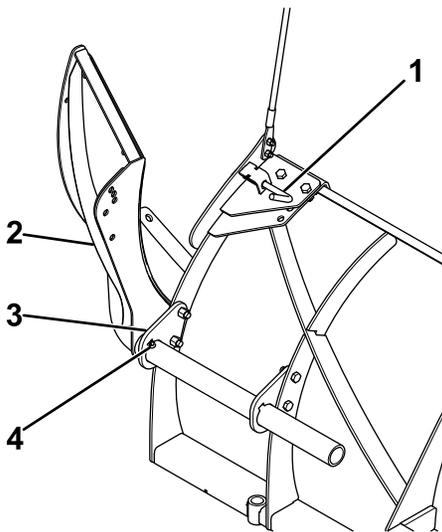

Figure 19
- Pull back on the spring pin and rotate it into the lock position (Figure 19).
- Slide the plow wing tube through the rib brackets until the attach pin passes through the outer bracket (Figure 19).